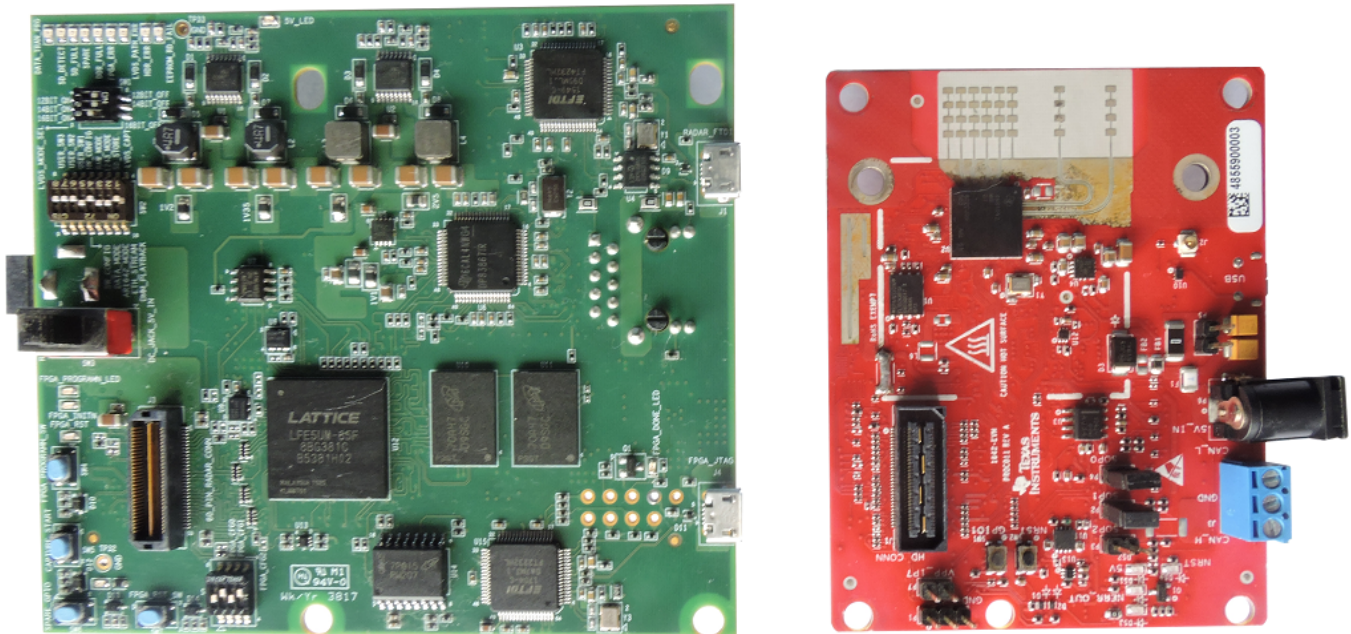

Figure 4. DCA1000EVM and xWR1xxx EVM Board Alignment
1. Align the DCA1000EVM and xWR1xxx EVM boards, as shown in Figure 4.